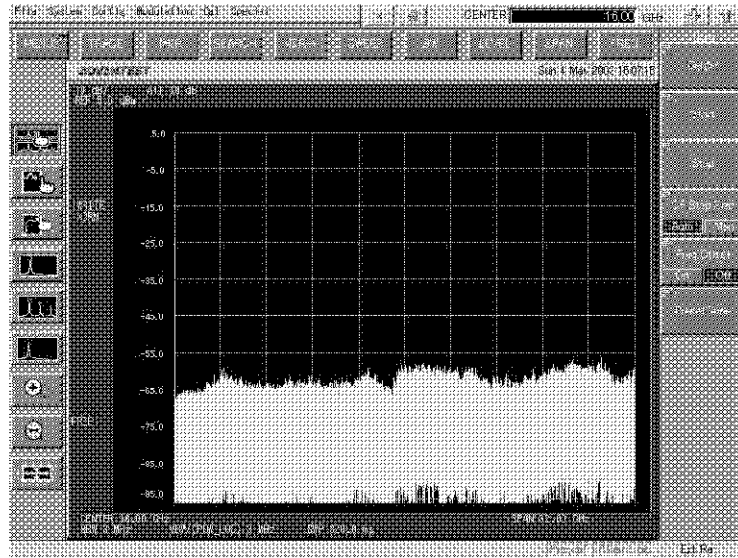

Figure 3-8 Initial Setup Screen
5. The initial screen shown in Figure 3-8 is displayed unless this instrument is tested faulty. The initial screen may give a different look from Figure 3-8, depending on the settings in effect the last time this instrument was powered off.